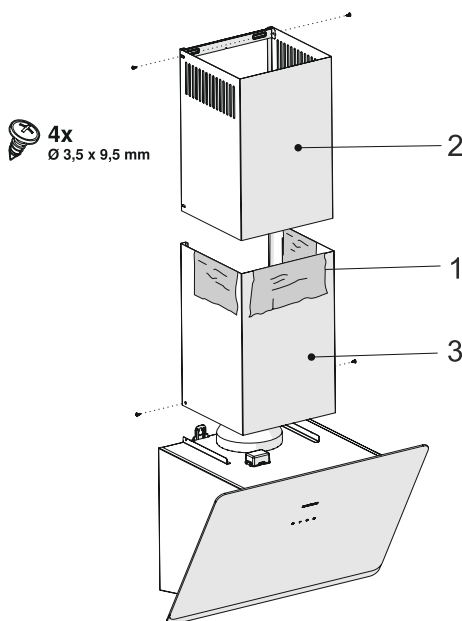

Fig. 14
- If there are protective sheets on the flues, remove them (Fig. 14 / 1).
- By pulling the upper flue upwards and screw to the flue connection plate through the left and the right sides (Fig. 14 / 2).
- Mount the lower flue to the body through the left and the right sides.(Fig. 14).